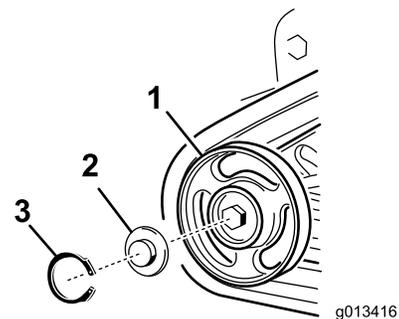

Figure 48
2. Remove the snap ring and cap from a road wheel (Figure 48).
3. Check the grease under the cap and around the gasket (Figure 48). If it is dirty, gritty, or depleted, clean out all of the grease, replace the gasket, and add new grease.
5. Place the greased road wheel cap over the bolt head (Figure 48).
6. Secure the road wheel cap with the snap ring (Figure 48).